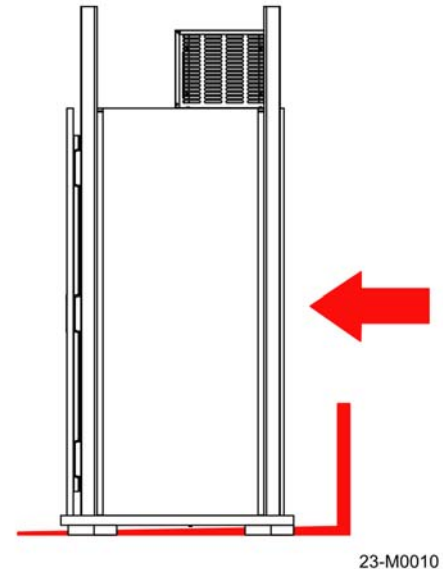

Figure 3-1
2. Make sure the fork tines of the forklift are long enough and positioned wide enough to provide adequate support of the shipment, refer to Figure 3-1.